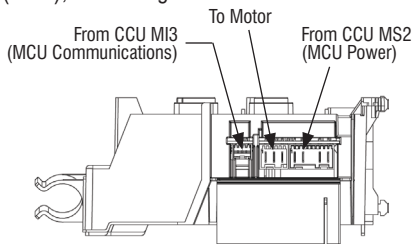

Figure 4 - Motor Control Unit (MCU)
6. Visually check that all connectors are inserted all the way into the MCU (see Figure 4, page 13).